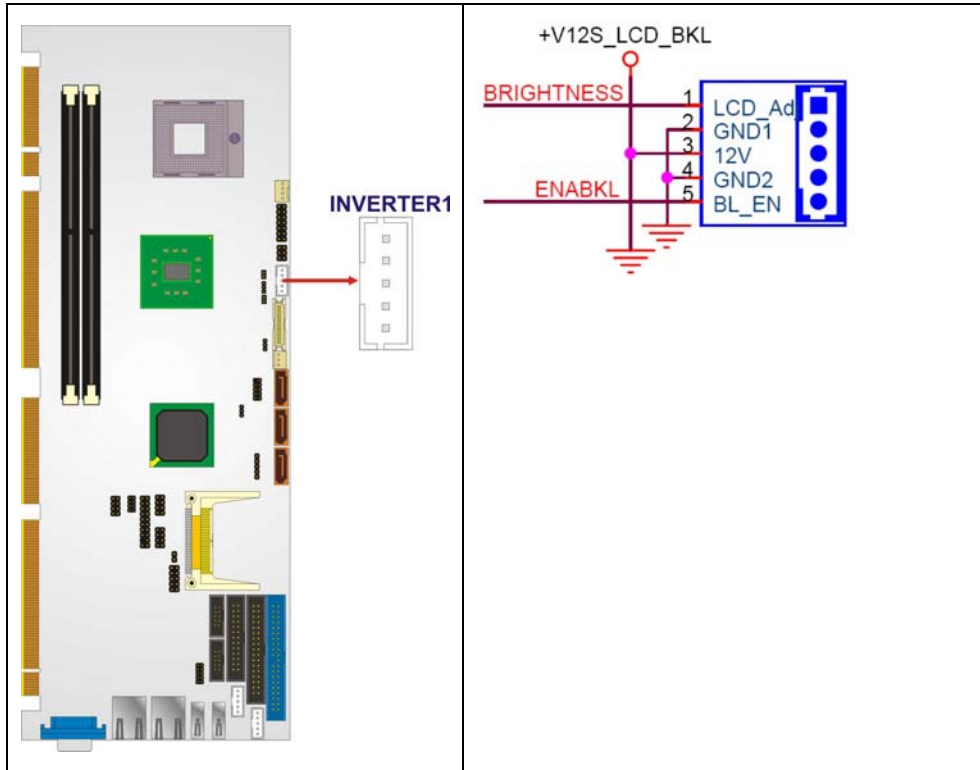

Figure 4-3: Panel Backlight Connector Pinout Locations
- CN Location:** See Figure 4-3